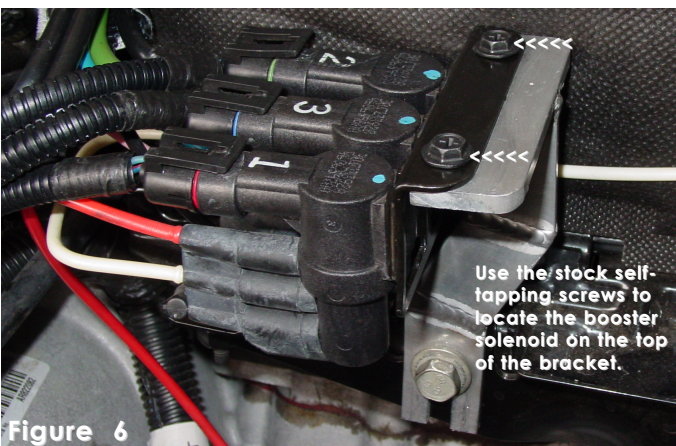

Figure 6
- 5- Take the boost solenoid valve and set it on top of the bracket. The solenoid should rest flush and line up to the bolt pattern on the bracket pad. (See fig. 6)